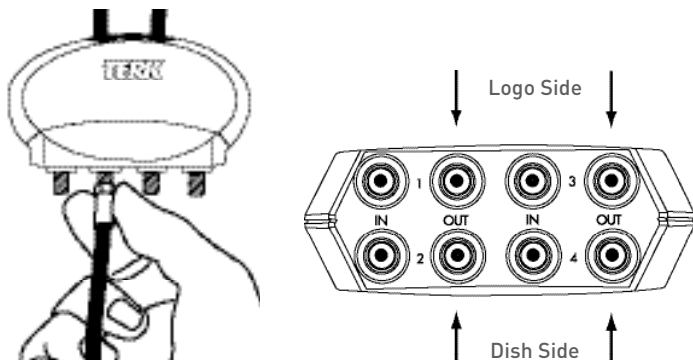

Fig 14.
2. Connect the satellite cables to the OUT 1, OUT 2, OUT 3, and OUT 4 terminals on the TV44 antenna. See Fig 14.